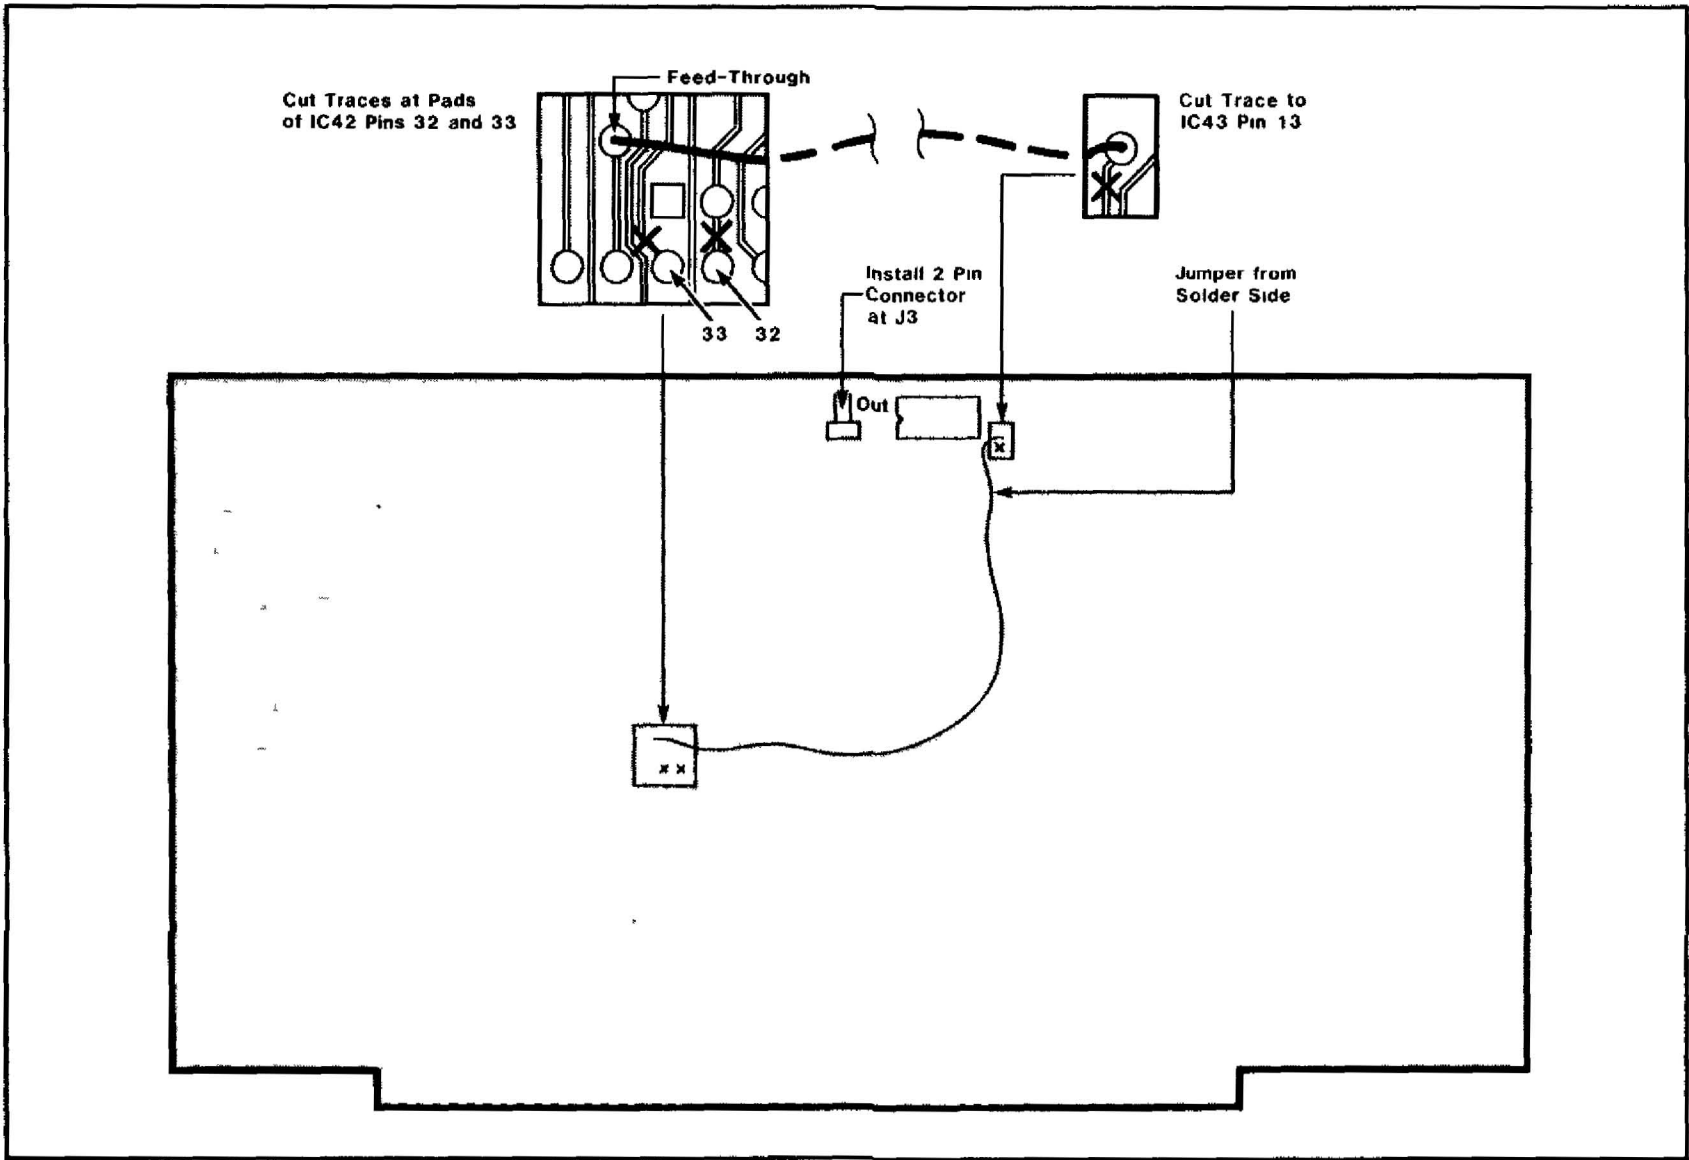

Figure C-2: WDI-II MODIFICATIONS (COMPONENT SIDE)
4. Cut the traces from pins 32 and 33 of IC42 (figure C-2).
5. At the feed-through hole to the right of IC1 Pin 7, cut the trace going to IC43 pin 13 (figure C-2).
6. Solder the 5-inch jumper from the solder side to the feed-through hole at the right of IC1 pin 7 (figure C-2).
7. Install a 2-pin connector (Cromemco part number 017-0009) at J3, to the left of IC1 (figure C-2).
9. Install the WDI-II and STDC boards, and connect the DMA priority cable from the right-hand OUT pin of J3 on the WDI-II to the right-hand IN pin of J3 on the STDC (figures C-2 and 1-2).